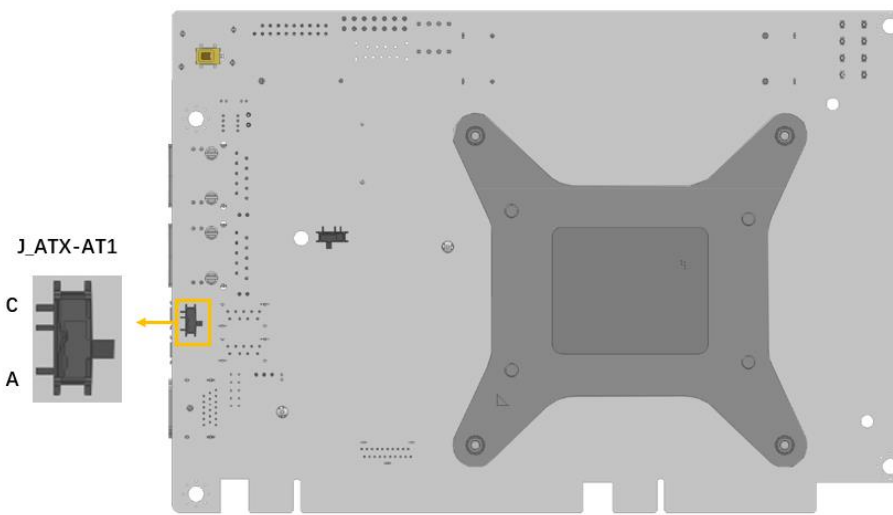

Figure 3-5: AT/ATX Power Mode Switch Locations
- CN Location:** See **Figure 3-5**